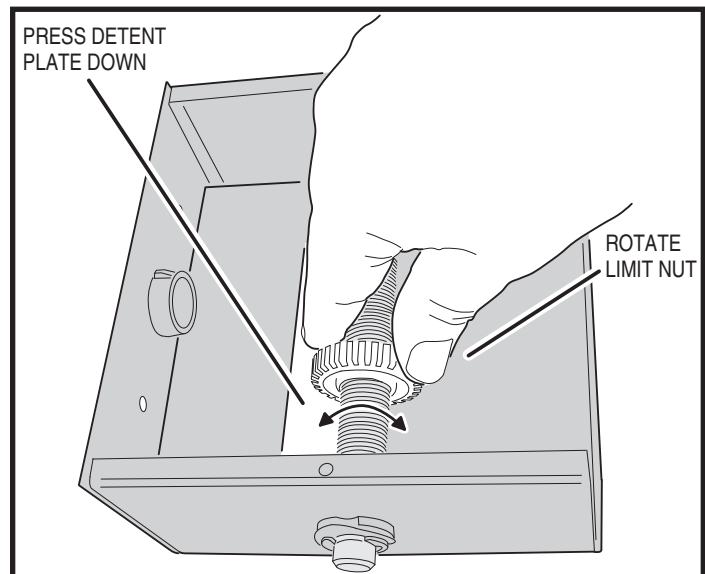

Figure 9. Setting the Limits
2. To adjust the limit nuts, press down on the detent plate and rotate the limit nut along the threaded shaft (see Figure 9).